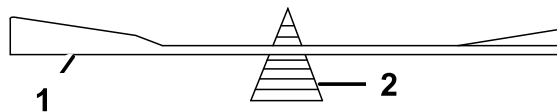

Figure 81
2. Check the balance of the blade by putting it on a blade balancer (Figure 81).